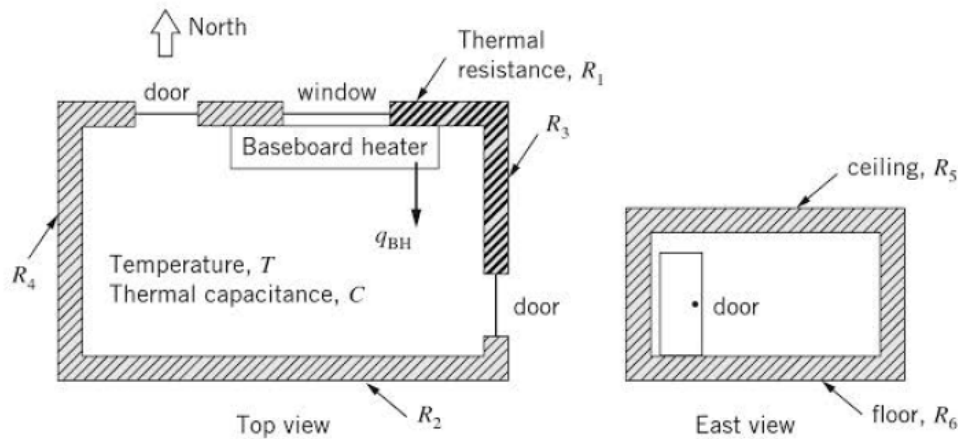

Figure P6.25
6.25 Figure P6.25 shows the thermal system (interior office room with baseboard heater) from Example 4.7 in Chapter 4. The system parameters are [5]